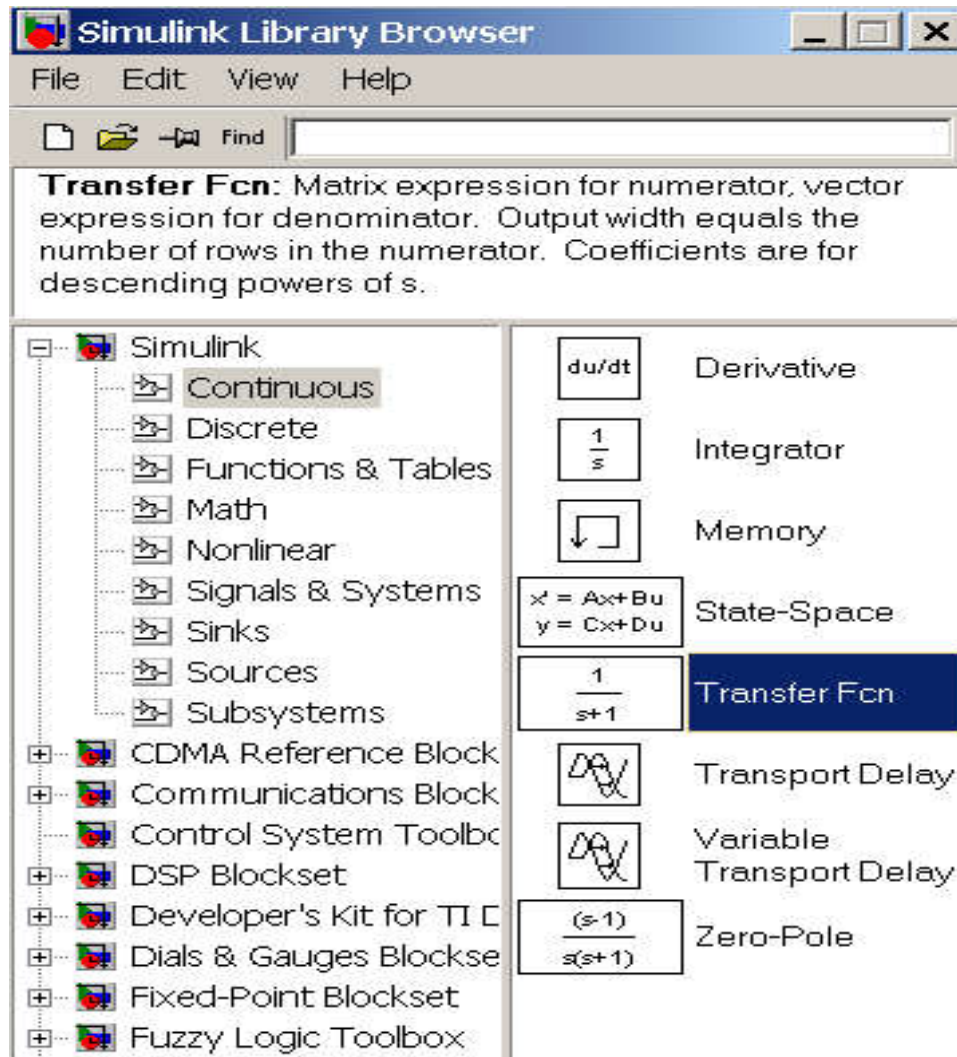

Figure 2: Simulink library browser
- (a) First type simulink in the MATLAB command window. The Simulink Library Browser appears as shown in Figure 2. Next select the New Model button (top left hand corner) on the Library Browser's toolbar.